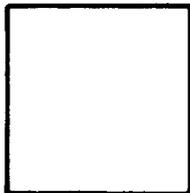

Fig. 15—Auxiliary Operation Symbol
2.15 *The auxiliary operation symbol* (Fig. 15) represents an off-line operation performed on equipment not under direct control of the central processing unit.